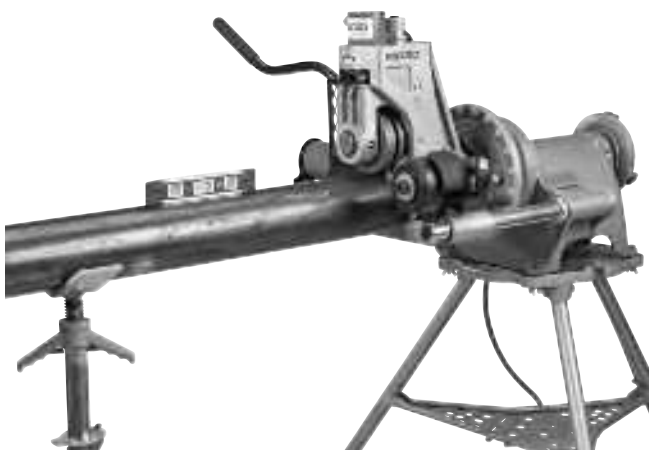

Figure 13 – Leveling Pipe
- The centerline of the pipe and the centerline of the drive shaft should be parallel. This can be checked with a level on top of the hydraulic cylinder and on the pipe. See *Figure 13*.